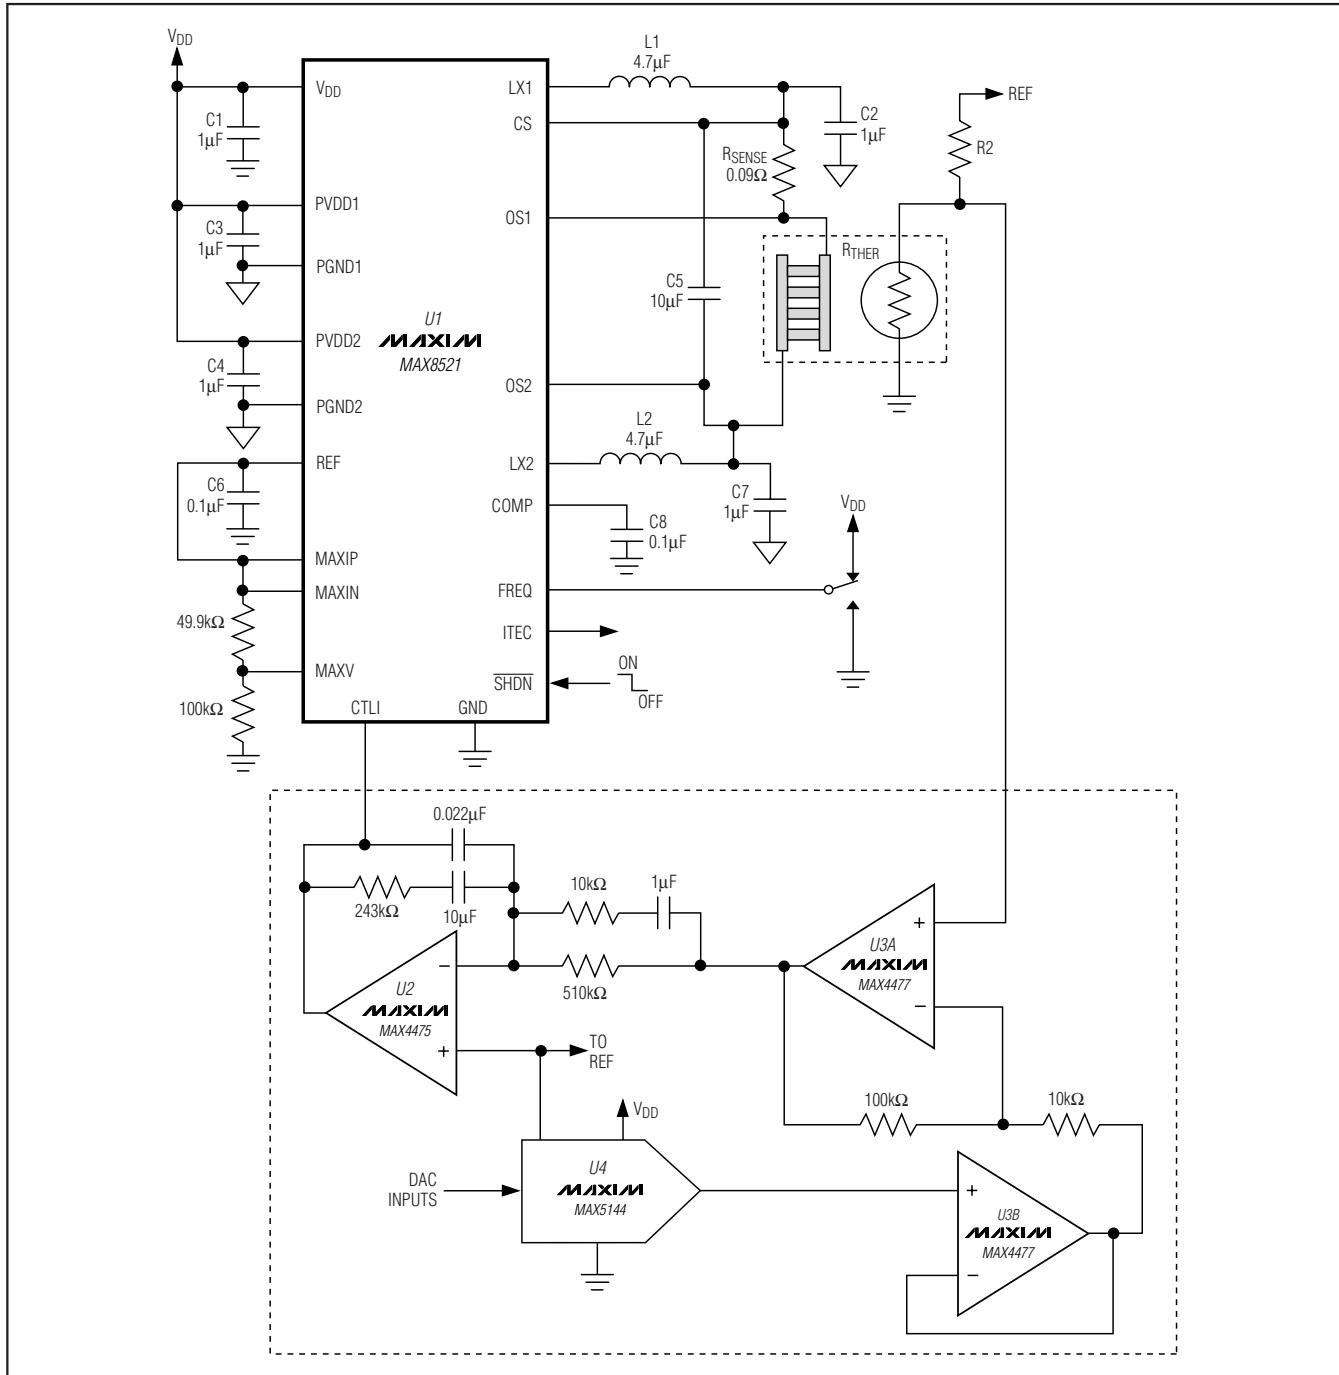

Figure 1. MAX8521 Typical Application Circuit
( $V_{DD} = 5V$ , circuit of Figure 1,  $T_A = +25^\circ C$  unless otherwise noted.)
( $V_{DD} = 5V$ , circuit of Figure 1,  $T_A = +25^\circ\text{C}$  unless otherwise noted.)
(VDD = 5V, circuit of Figure 1, TA = +25°C unless otherwise noted.)
The MAX8520/MAX8521 TEC drivers consist of two switching buck regulators that operate together to directly control the TEC current. This configuration creates a differential voltage across the TEC, allowing bi-directional TEC current for controlled cooling and heating. Controlled cooling and heating allow accurate TEC temperature control to within 0.01°C. The voltage at CTLI directly sets the TEC current. An external thermal-control loop is typically used to drive CTLI. Figures 1 and 2 show examples of the thermal-control-loop circuit.
**Table 1. TEC Connection for Figure 1**
The MAX8520/MAX8521 include an on-chip voltage reference. The 1.50V reference is accurate to 1% over temperature. Bypass REF with  $0.1\mu\text{F}$  to GND. REF can be used to bias an external thermistor for temperature sensing as shown in Figures 1 and 2.
The common-mode filter capacitors (C2 and C7 of Figure 1) are used as filter capacitors to ground for each output. The output ripple voltage depends on the capacitance, the ESR of these capacitors, and the inductor ripple current. Ceramic capacitors are recommended for their low ESR and impedance at high frequency.
The differential-mode filter capacitor (C5 in Figure 1) is used to bypass differential ripple current through the TEC as the result of unequal duty cycle of each output. This happens when the TEC current is not at zero. As TEC current increases from zero, both outputs move away from the 50% duty-cycle point complementarily. The common-mode ripple decreases, but the differential ripple does not cancel perfectly, and there will be a resulting differential ripple. The maximum value happens when one output is at 75% duty cycle and the other is at 25% duty cycle. At this operating point, the differential ripple is equal to 1/2 of the maximum common-mode ripple. The TEC ripple current determines the TEC performance, because the maximum temperature differential that can be created between the terminals of the TEC depends on the ratio of ripple current and DC current. The lower the ripple current, the closer to the ideal maximum. The differential-mode capacitor provides a low-impedance path for the ripple current to flow, so that the TEC ripple current is greatly reduced. The TEC ripple current then can be calculated as follows:
There are numerous ways to implement the thermal loop. Figures 1 and 2 show designs that employ precision op amps, along with a DAC or potentiometer to set the control temperature. The loop can also be implemented digitally, using a precision A/D to read the thermistor or other temperature sensor, a microcontroller to implement the control algorithm, and a DAC (or filtered-PWM signal) to send the appropriate signal to the MAX8520/MAX8521 CTLI input. Regardless of the form taken by the thermal-control circuitry, all designs are similar in that they read temperature, compare it to a set-point signal, and then send an error-correcting signal to the MAX8520/MAX8521 that moves the temperature in the appropriate direction.
6) To ensure high DC-loop gain and minimum loop error, keep the board layout adjacent to the negative input pin of the integrator (U2 in Figure1) clean and free of moisture. Any contamination or leakage current into this node can act to lower the DC gain of the integrator which can degrade the accuracy of the thermal loop. If space is available, it can also be helpful to surround the negative input node of the integrator with a grounded guard ring.